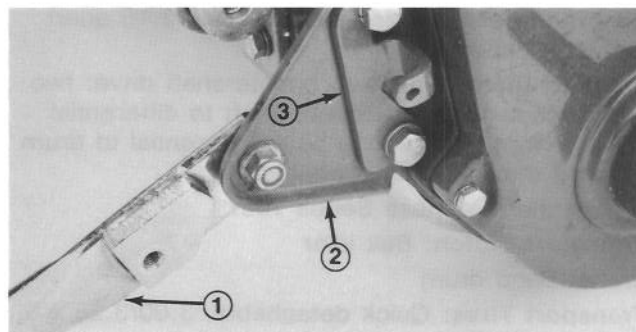

Figure 3
1. Secure each side of kickstand to inside of rear mounting brackets with a capscrew, spacer and locknut (Fig. 3).
2. Mount spring bracket to the right side of mounting bracket with (2) capscrews and lockwashers (Fig. 3).